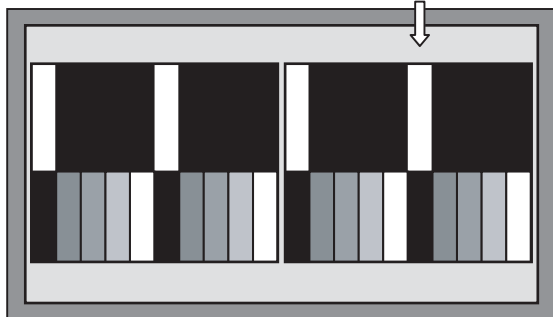

Fig.7
| | Signal generator | | [1. PICTURE/SOUND] S13: RDRV (R DRIVE) S15: GDRV (G DRIVE) S17: BDRV (B DRIVE) S19: CUTR (R CUTOFF) S21: CUTG (G CUTOFF) S23: CUTB (B CUTOFF) F44: (NO DISPLAY) (Picture control) F45: (NO DISPLAY) (Picture control mode sw) F46: OUT LV. (Output level upon detection) F47: LMT BTM (Minimum value upon detection) F48: LMT TOP (Maximum value upon detection) | (2) Set "VIDEO STATUS" to STANDARD. (3) Set "ASPECT" to FULL. (4) Select "COLOR TEMPERATURE" to LOW. (5) Set SPLIT screen mode. (6) Select "1.PICTURE/SOUND" from the SERVICE MODE for the right screen. (7) Set < F44 > (Picture control) to "001" and <F45 > (Picture control mode sw) to "000" to set Y ADJUST MAX MODE. (8) Set < F46 > (Output level upon detection), < F47 > (Minimum value upon detection), and < F48 > (Maximum value upon detection) to values as shown in the left table. (9) Press the [MUTING] key to memoirize the set value. (10) Select "8.PP" from the SERVICE MODE. (11) Adjust < ADM013 > (G OFFSET) to set the 0% black part on the upper right half of the screen to the same color as on the upper left half of the screen. (Fig.7) (12) Press the [MUTING] key to memoirize the set value. (13) Select "1.PICTURE/SOUND" from the SERVICE MODE. (14) Set < F44 > (Picture control) to "000" to cancel Y ADJUST MAX MODE (15) Press the [MUTING] key to memoirize the set value. |